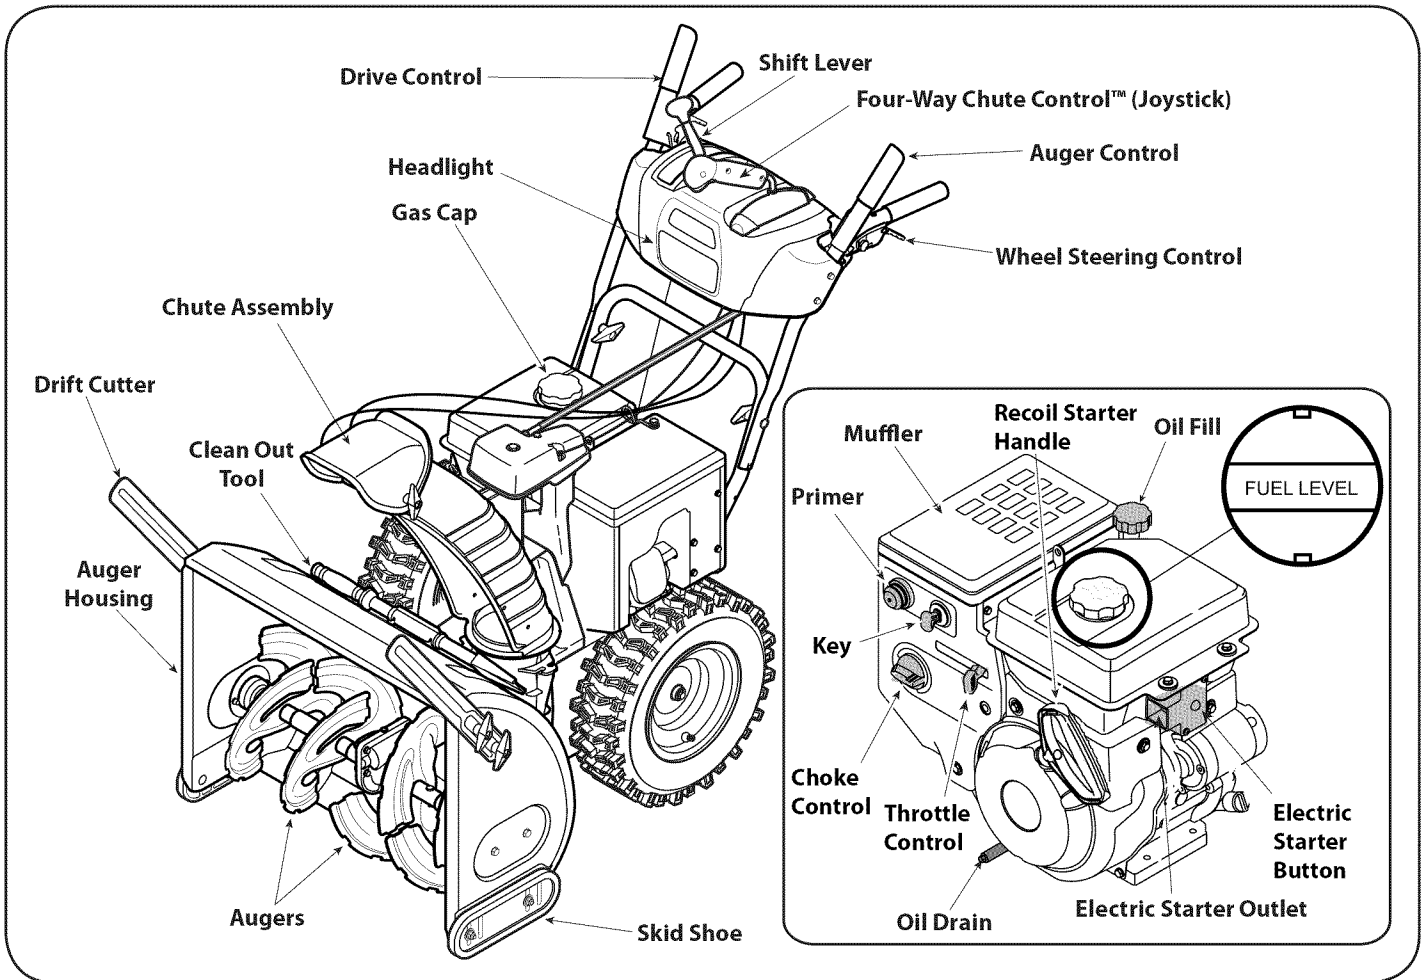

Figure 17
Now that you have set up your snow thrower, it's important to become acquainted with its controls and features. Refer to Figure 17.
2. A fuel level indicator is located in the fuel tank. See Figure 17 inset. Be careful not to overfill. Fill tank until fuel reaches the fuel level indicator to allow space for fuel expansion.